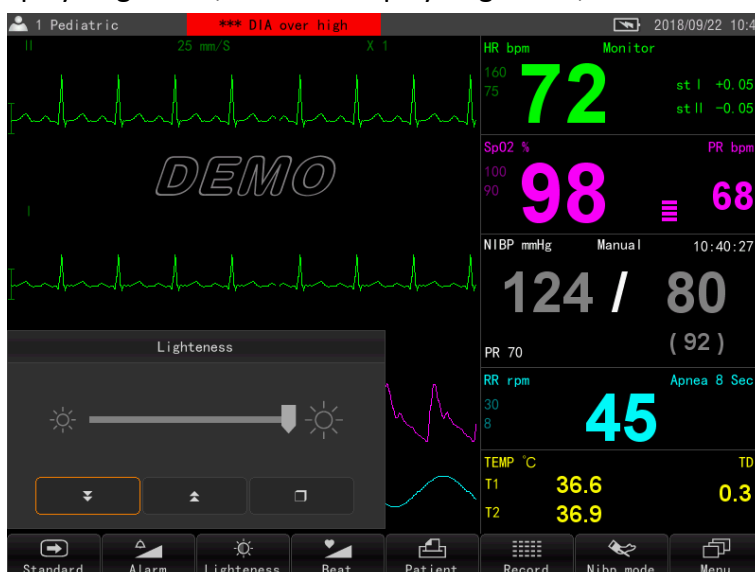

Fig. 4-13
- (3) Lightness: Adjust the brightness of the monitor display. Three levels are available. After entering the brightness setting interface (as shown in Fig. 4-13), the method of adjusting the brightness is similar to the volume adjustment. The three buttons from left to right are: reduce display brightness, increase display brightness, and exit the settings window;